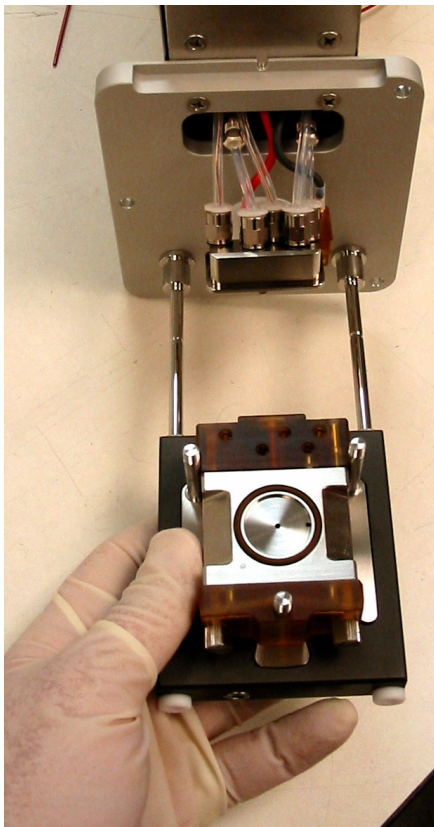

Figure 63. Removing the electrode assembly and mount
3. Remove the electrode assembly and mount by pulling them off the two posts, as Figure 63 shows.
2. Reinstall the electrode assembly mount on the two posts, as Figure 63 on page 88 shows.